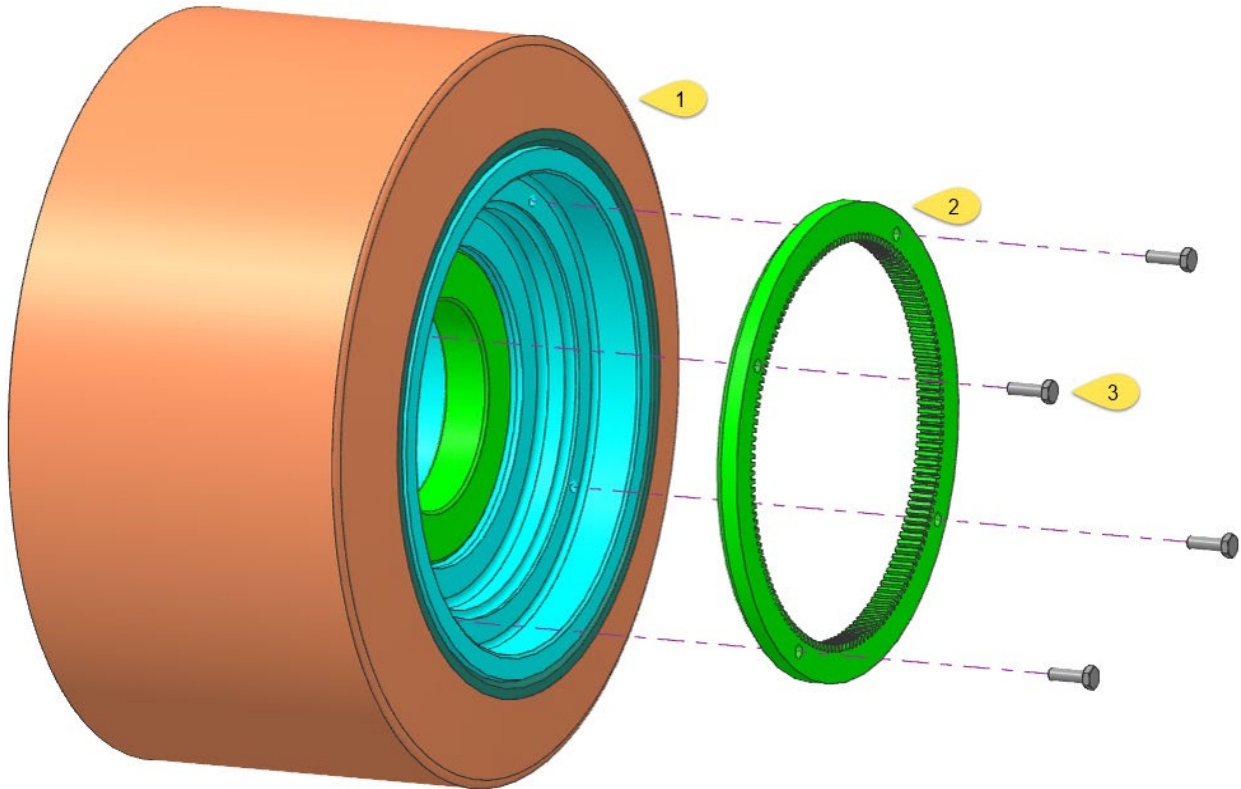

Figure 5 -Tone wheel assembly
- Attach the tone wheel to the new load wheel assembly as shown in Figure 5
##### 3.5.1.1 Part Numbers & Torque Settings [Figure 5]